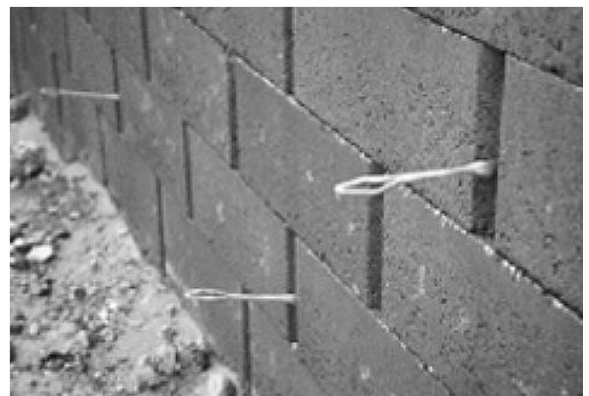

Figure 4 Ties in place for TW1 Link block
16. If TW1 Link block is specified for an architectural masonry face to be attached, the approved stainless steel ties provided should be inserted into the slots of the TW1 Link blocks during the laying process (Figure 4). A rate of three ties to every square metre of face in a staggered pattern should be used.